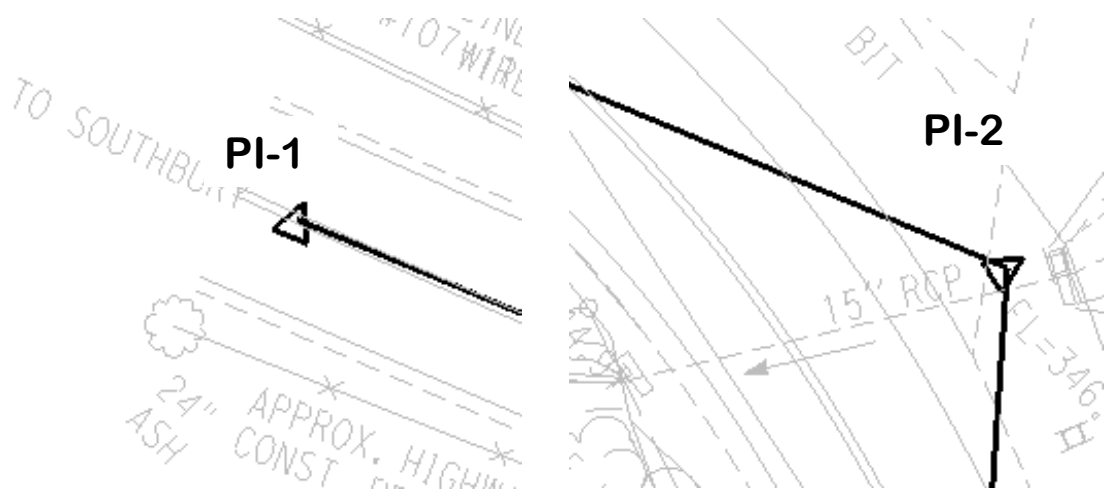

Figure 4-3 Mainline Horizontal PI Point Locations
- E. Placing the PI-1, within the MicroStation window key-point snap to the center of the existing roadway at the beginning (left hand corner) of the project. Then left-click (data point = placing and accepting) to accept the point. (Right-click = rejects the point). (See Figure 4-3 for location of all PIs.). Note: Always read the MicroStation command prompts at the bottom left corner of the application.